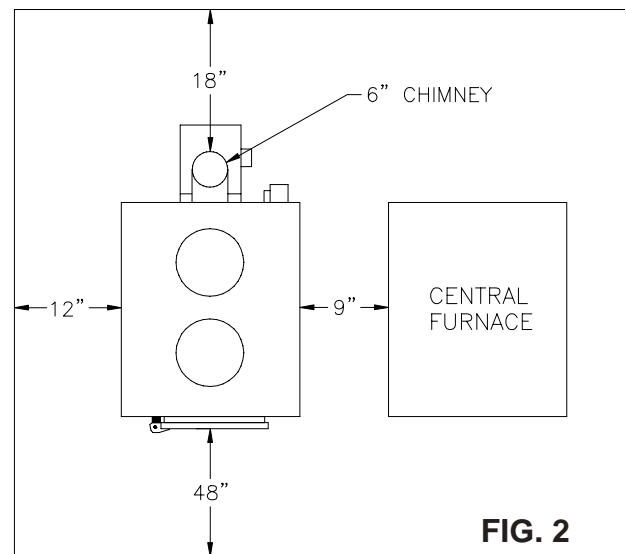

FIG. 2
1. The furnace should be located in the same room as the central system and as close as possible, but no closer than 9". There should be no wall between the furnace and the warm air outlet duct that is connected directly to the warm air outlet plenum of the central furnace. See Fig. 2.
NOTE: Install only on a noncombustible floor. (REFER TO FIG. 2 & 3)
4. Check figures 2 and 3. Be sure you have the clearances shown from the furnace and the connector pipe to combustible surfaces. If you have a solid brick or stone wall behind your heater, you can place the furnace as close as you wish to the wall. If the wall is only faced with brick or stone, treat it as a combustible wall.